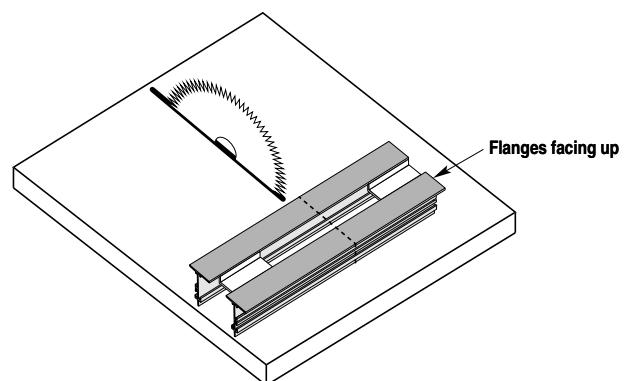

Figure 22. Field Cutting Diffuser
- A. Secure Flowline™ to table. Cut through both Flowline™ rails with the finished flanges facing up as shown in Figure 22.